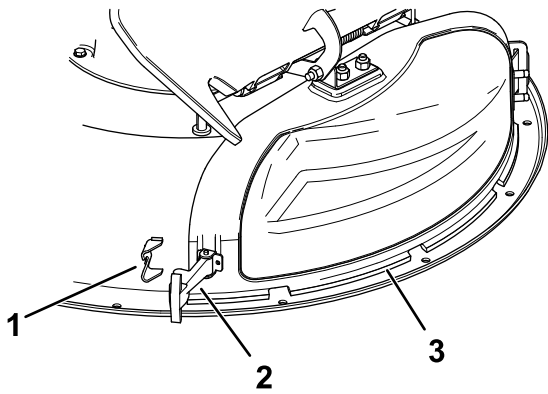

Figure 11
3. Release the flexible latch from the latch retainer on the discharge cover and pivot the discharge cover to the right (Figure 11).
6. Secure the discharge cover to the deck by hooking the flexible latch on the discharge cover into the retainer on the deck (Figure 11).